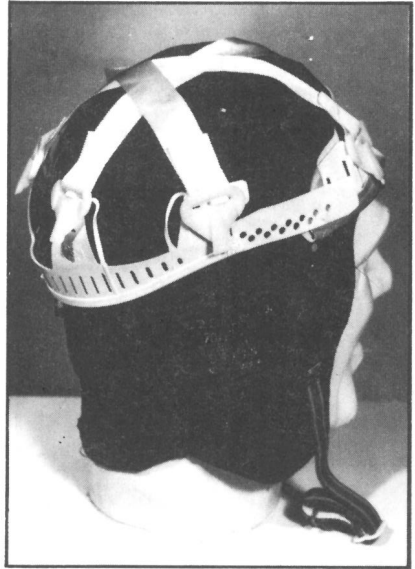

FIGURE 4
**2.03** Winter liners with ear flaps for use with safety cap are available as accessory items. The liner is worn with the suspension over the liner as illustrated in Figure 4.